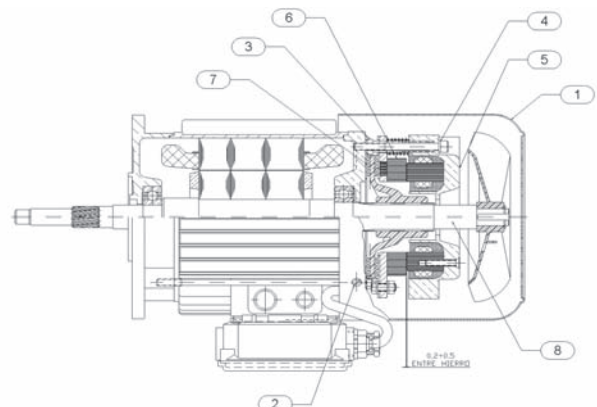

Figure 12, Two-speed Brake Motor, ABK201
The procedure for resetting the air gap, figure 12, is as follows:
It is advisable to replace the brake disc when its thickness falls below 5 mm. For its replacement, the procedure is as follows, figure 12:
- Remove the protective cover for the brake (1) and the fan, by removing the bolts (2). The brake is now visible.
- Unscrew and remove the nuts (4).
- Carefully remove the magnet (5) and the free yoke (6), to prevent damage to the cable connecting it to the motor.
- Remove the brake disc (7). Clean and de-lubricate the friction surfaces and the toothed area of the motor shaft (8).
- Check that the new disc (7) does not contain any impurities on the toothed cube, and then attach it to the motor shaft. (8). The correct assembly position is shown in figure 12.
- Check that the part has no difficulties with axial movements. Insert the free yoke (6) and the magnet (5).
- Screw the bolts (4) and adjust the air gap as described above.